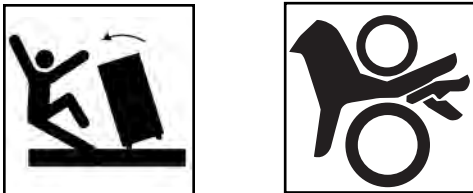

Figure 6 – Warning Label
- Presence and readability of the warning label (*see Figure 6*).